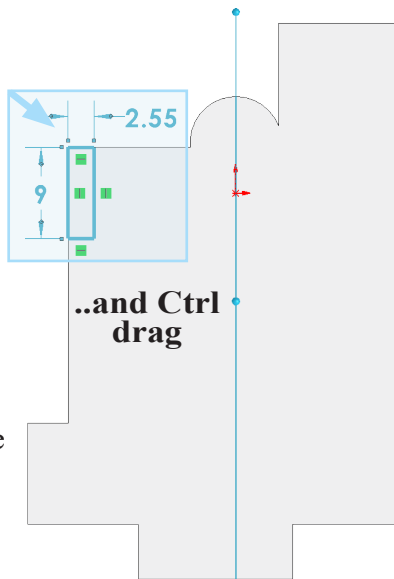

Fig. 14
Step 9. **Ctrl drag** a selection to **select rectangle**, **Fig. 14**.